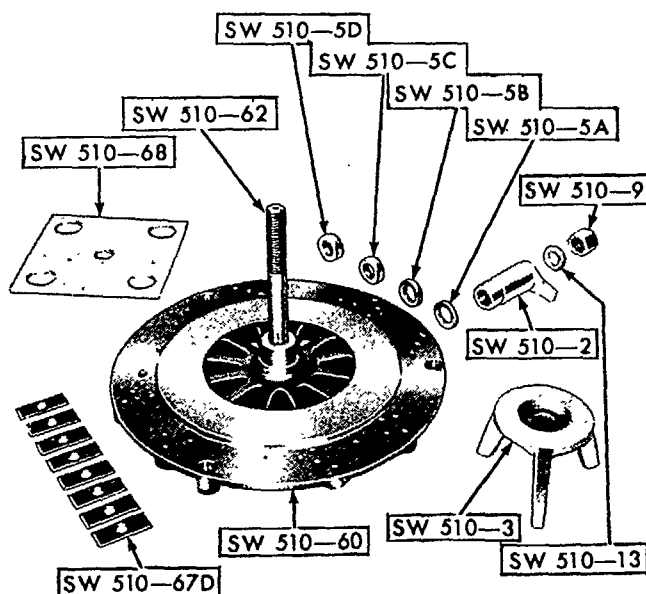

Figure 29
Listed below and illustrated in Figure 29 are those component parts of Universal Clutch Fixture Tool SW510 which are used when overhauling previous type single clutches.
1. Insert the serrated end of the Fixture Spindle, Tool No. SW510-62, Figure 29, into the hub of the Fixture Base, Tool No. SW510-60. Position the fixture base on edge and install the Washer, Tool No. SW510-66 (not shown) and Jam Nut, Tool No. SW510-65 (not shown) on the end of the spindle that protrudes from the bottom of the base. Tighten the nut until the spindle bottoms in the hub.
Bolt the assembled Fixture Base, Tool No. SW510-60, Figure 29, to a work bench.